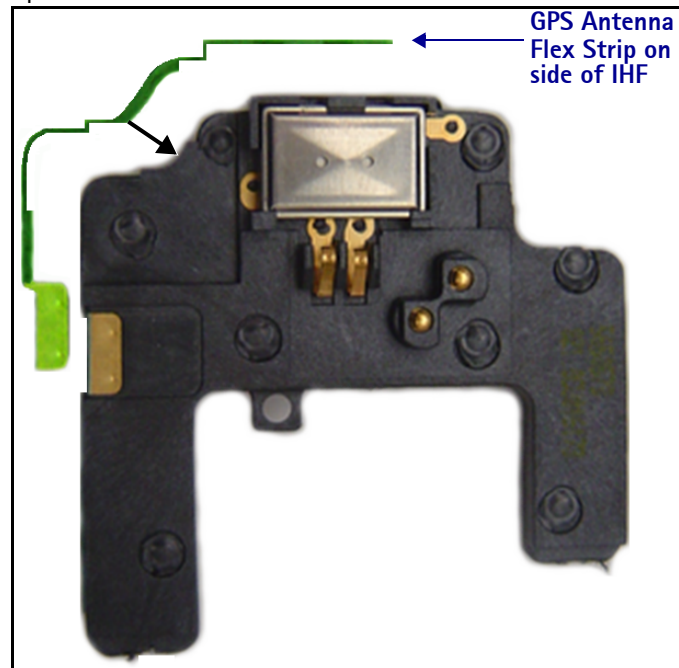

Figure 2: IHF module
- If the GPS flex antenna (see Figure 2 on page 5) shows damage to the pogo-pin pad (pressure tearing, hole, cracking, corrosion, bubbles, etc.) replace the GPS/audio module.